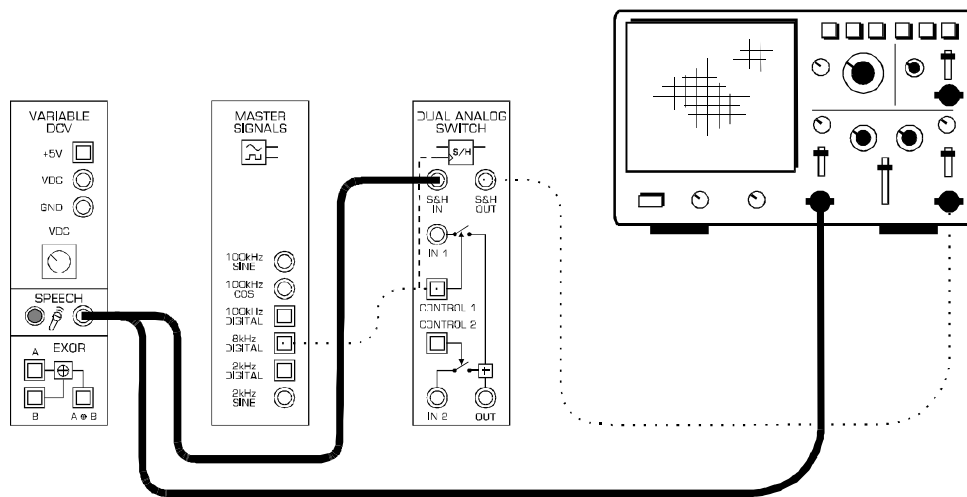

Figure 6
11. Connect them to the Speech module's output as shown in Figure 6 below.